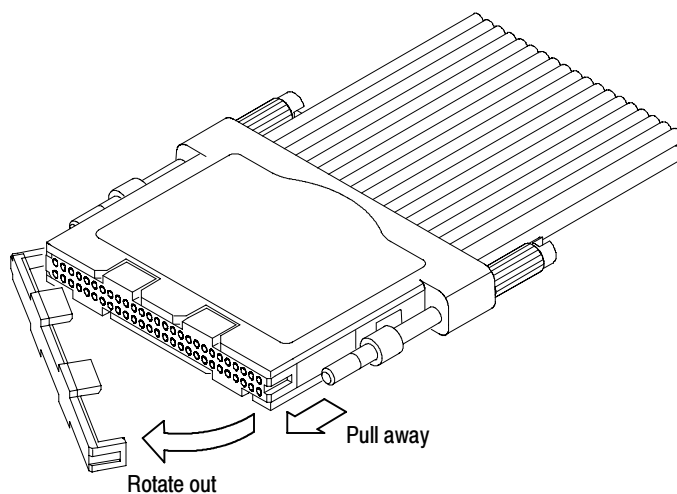

Figure 19: Replacing the cLGA clip
1. Gently pull one side of the clip away from the probe head, as shown in Figure 19, and then remove the entire clip.